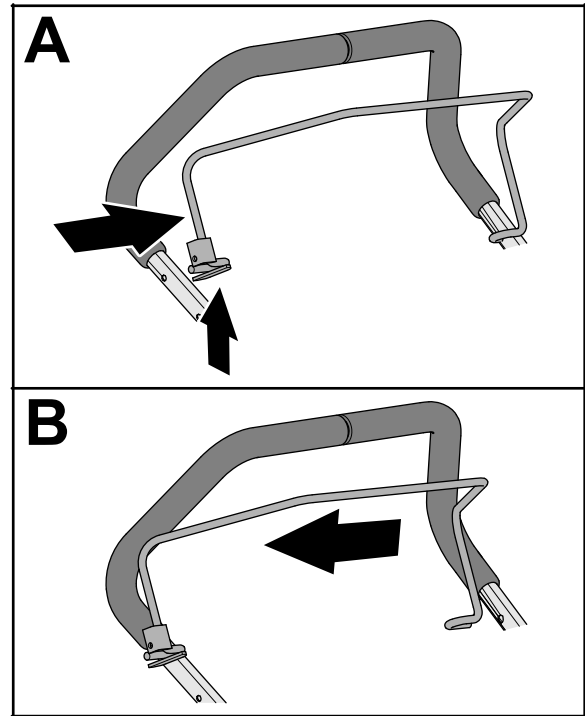

Figure 9
- Squeeze the leg of the operator-presence bail until you can remove it from the upper handlebar, and remove the bail from the machine (Figure 9).